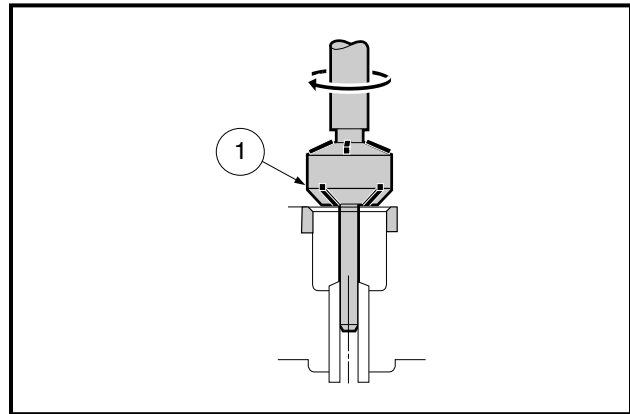

Figure 3-21 Resurfacing Valve Seat
2. Recondition the valve seats with a valve seat cutter (1) (45° x 35 mm exhaust seat, 30° x 35 mm intake seat CC P/N 1016554) and lap the valves (**Figure 3-21, Page 3-12**).
- 2.4. Resurface the valve seats with a 45° (exhaust seat) or a 30° (intake seat) cutter (1) removing only enough material to produce a smooth and concentric seat (**Figure 3-21, Page 3-12**). **See following CAUTION.**
- 2.5. Use a 60° x 35 mm seat cutter (1) to narrow the seat to standard width (**Figure 3-21, Page 3-12**). **See following CAUTION.**